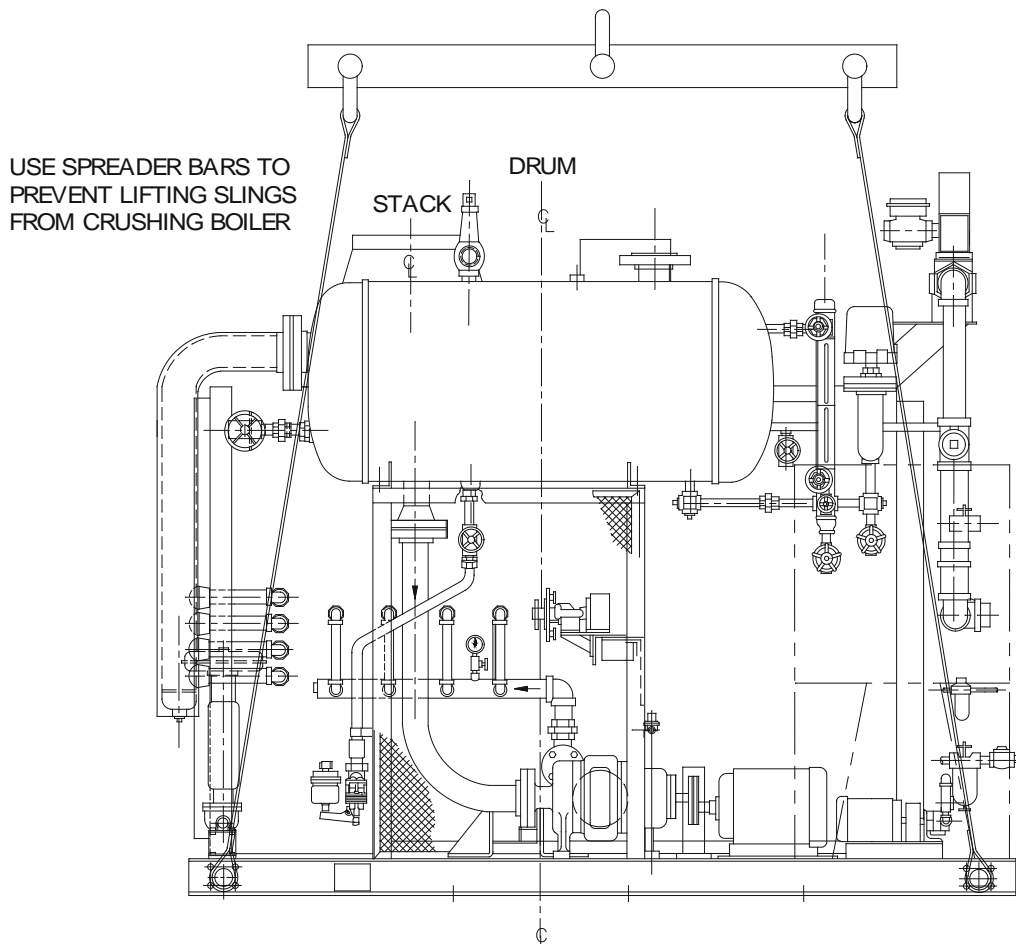

Figure 1. Lifting by Crane
Figure 1 illustrates a method of attaching a sling for lifting the boiler from a single point. For boiler sizes up to and including 450 BHP, holes, 2-1/2 inches in diameter, are provided on each end of the boiler skid for the insertion of lifting bars to which slings may be attached. Vapor Power recommends that the lifting bars be a minimum of 2-1/4 inches diameter and extend beyond the boiler skid a sufficient length so that slings do not apply stress to piping, the boiler casing, controls or accessories. Use spreader bars to prevent damage to the boiler when lifting. Apply collars or other type retainers to prevent the slings from slipping over the ends of the lifting bars.
- 4.4 Some customers prefer to elevate the boiler as additional protection from drainage or to facilitate installation. A concrete pad (see Figure 1) approximately four inches thick is the usual practice in such instances.